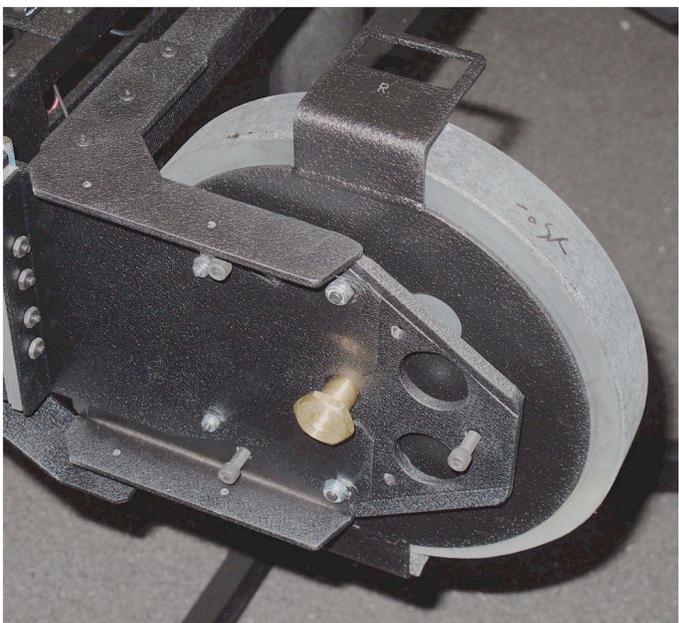

Figure 28
8. The mirror cell should now be in virtually the same position as it was when you removed it and only require minor adjustments to achieve collimation (Figure 28).